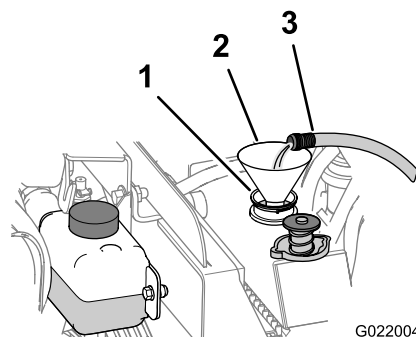

Figure 140
- B. Fill the radiator with clean water (Figure 140).